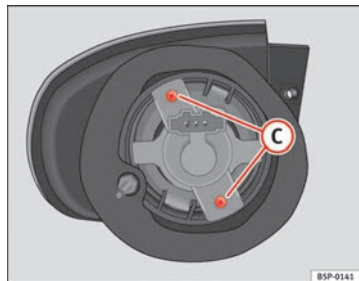

Fig. 192 Turn signal
- Unscrew the bolts ⇒ fig. 192 (C) from the bulb holder and pull on this.
- Unscrew the bolts ⇒ fig. 192 C from the bulb holder and pull on this.